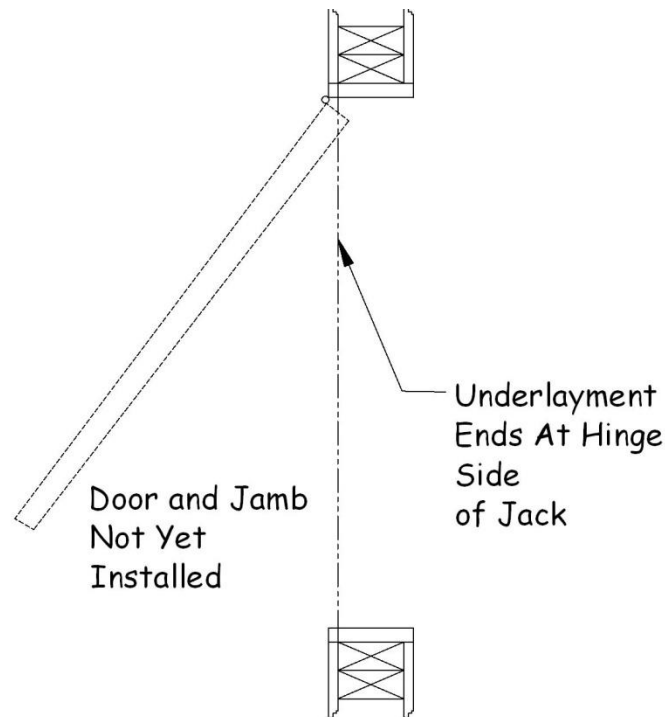

Figure 16-1. Underlayment in Interior Door Opening.
5. Seams between vinyl flooring and carpeting should be midway under the bottom of a door when closed. Doors when closed are not located in the middle of the doorjamb. Use the edges of the jack stud as reference. For doors swinging inward, use the inside edge of the jack stud for the location of the end of the underlayment. For doors swinging outward, use the outside edge of the jack stud. (See Figure 16-1.)